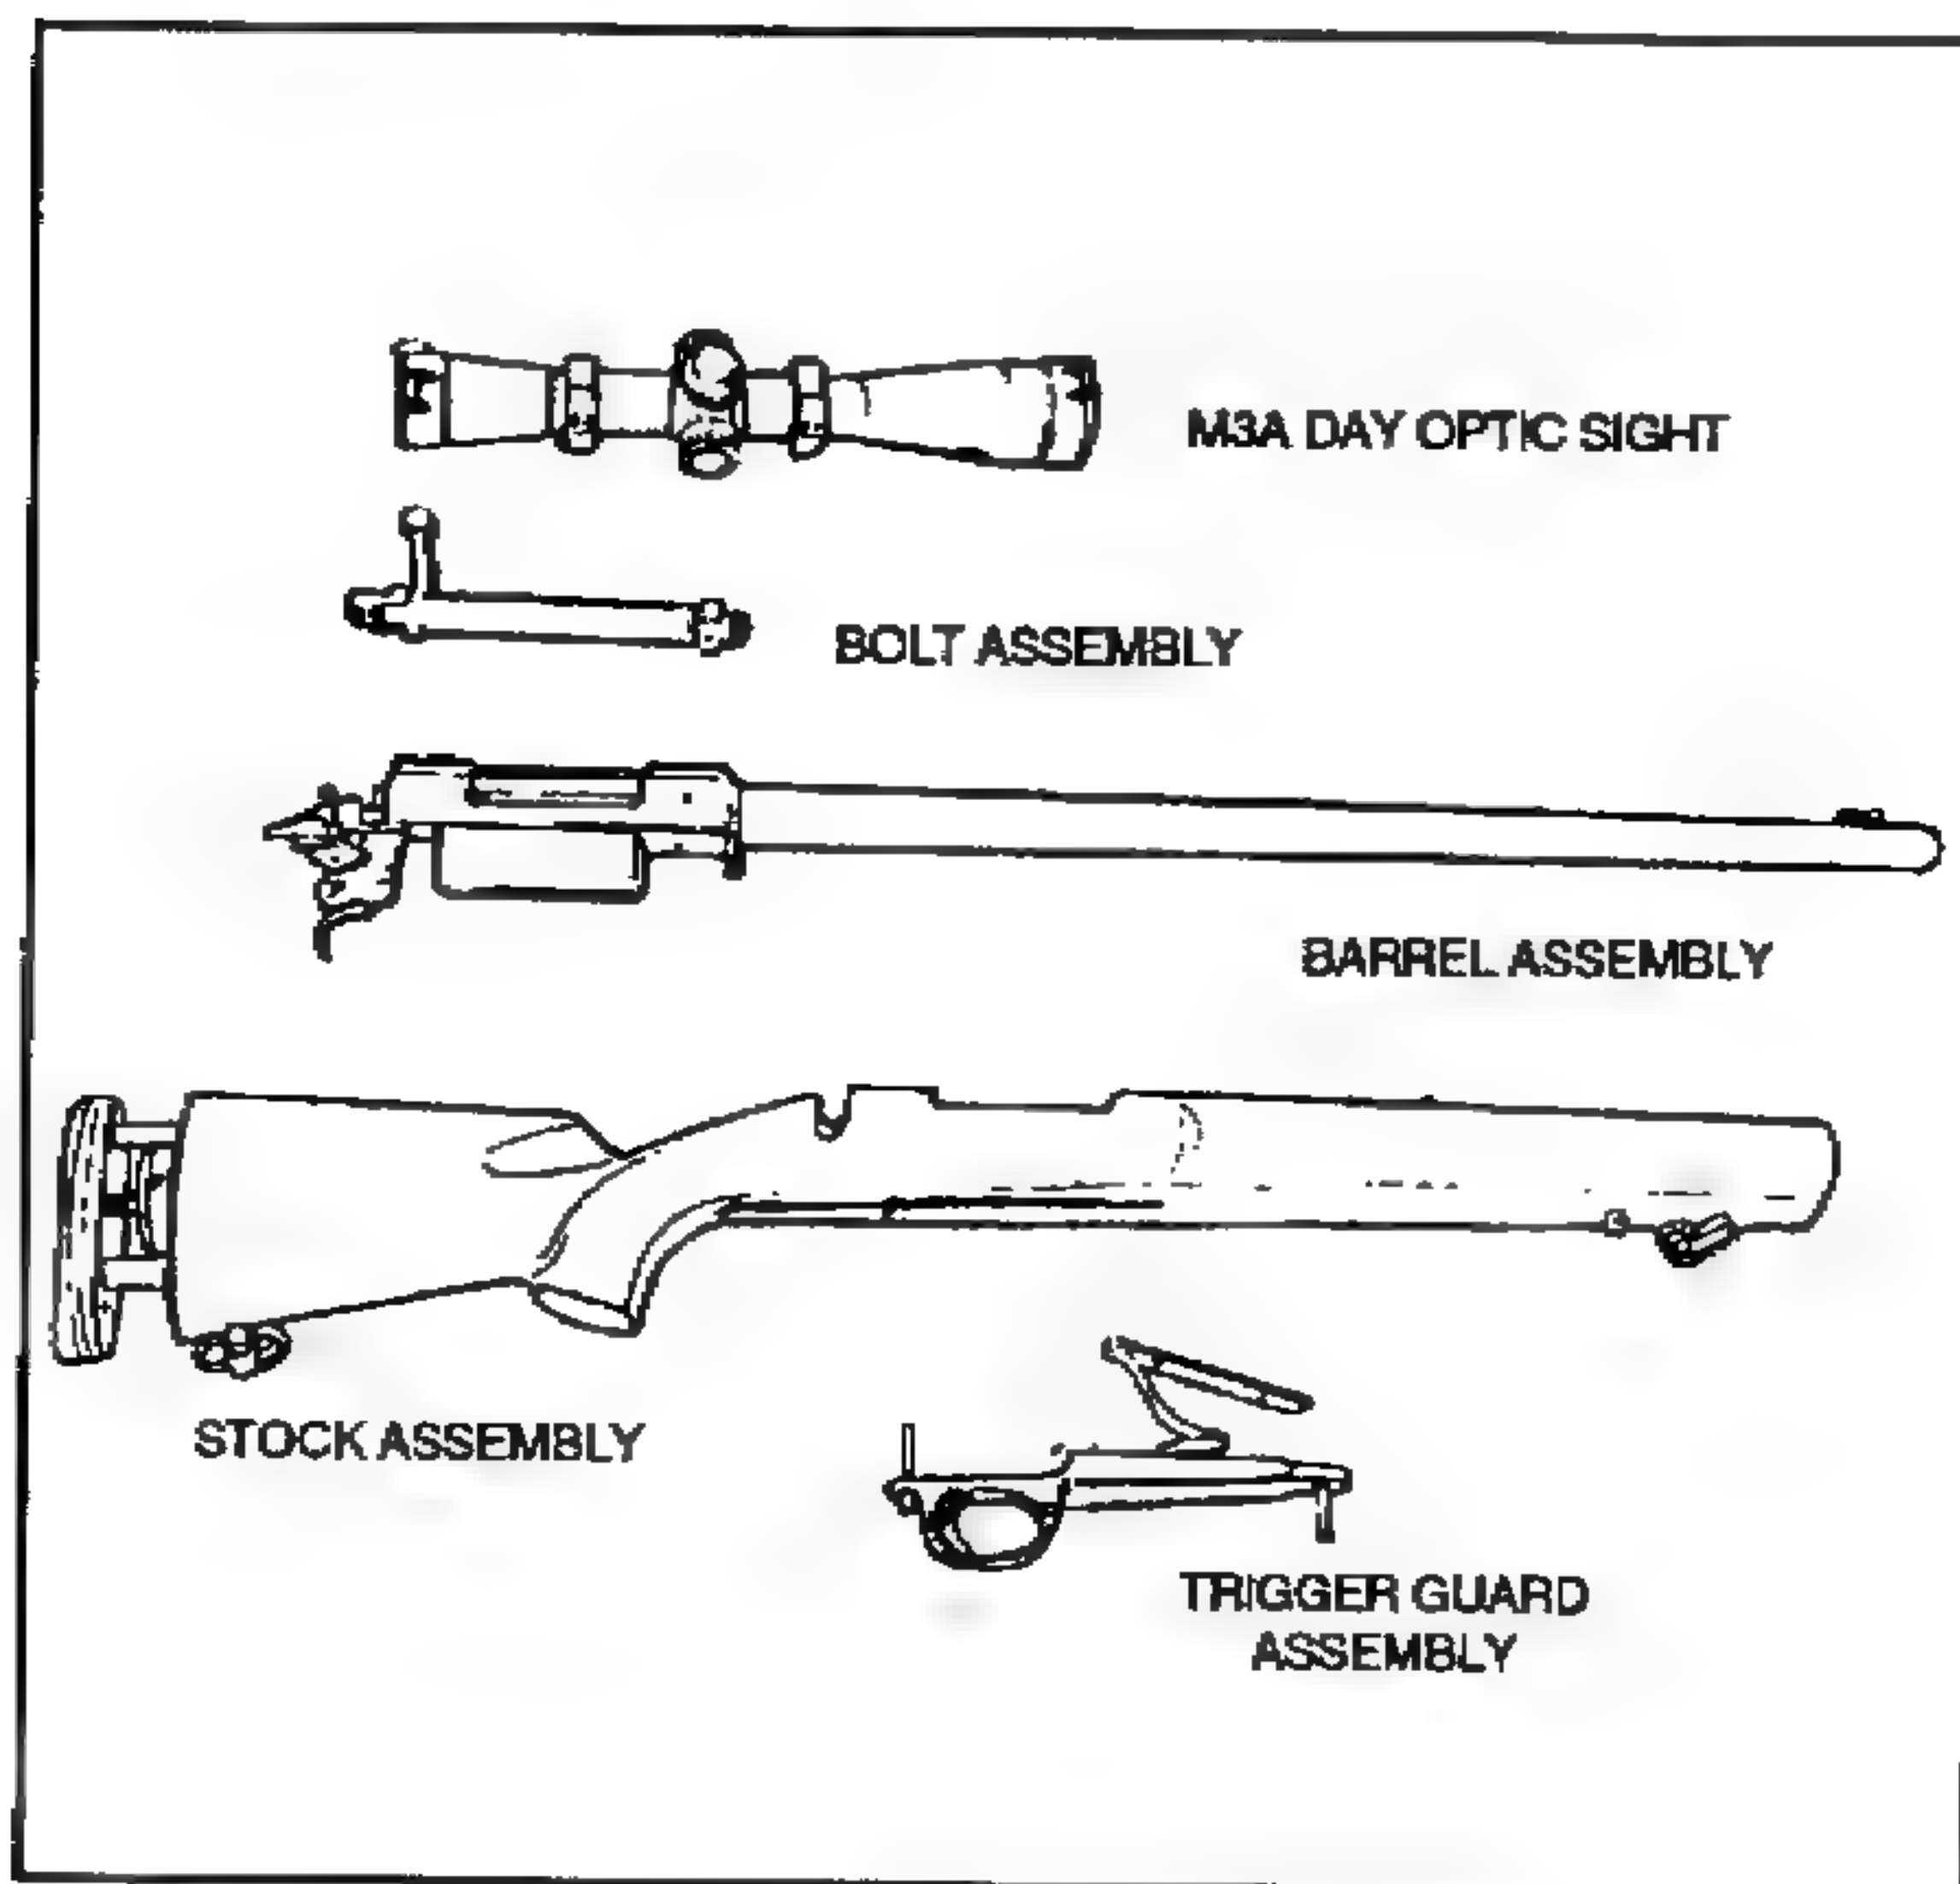

Figure 2-16. Disassembled weapon.
- f. Lift the stock assembly from the barrel assembly (Figure 2-16).